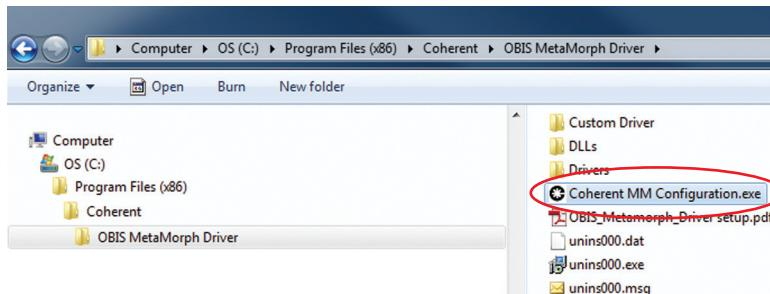

Figure VI-3. Start Configuration Program
6. Start the *Coherent MM Configuration* program by double-clicking the **Coherent MM Configuration.exe** file, shown in Figure VI-3: